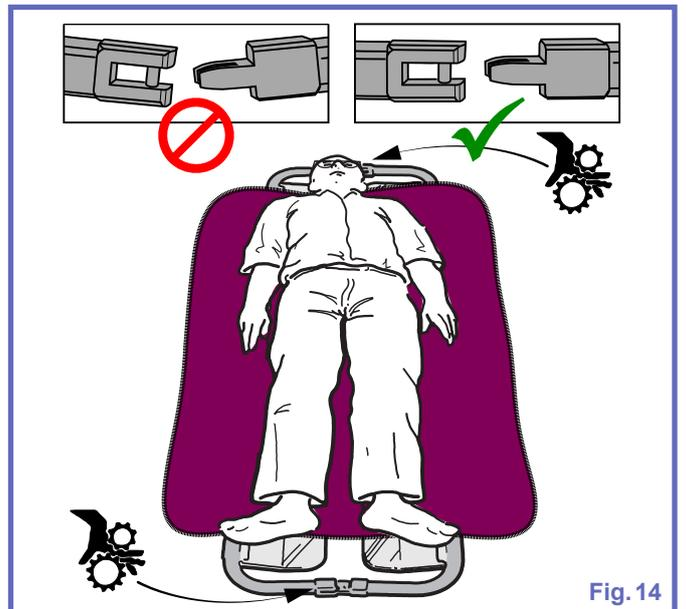

Fig. 14
- 6) Align both sections of the Scoop Stretcher. Place both latches parallel to make the closing easier, see "Fig. 14".